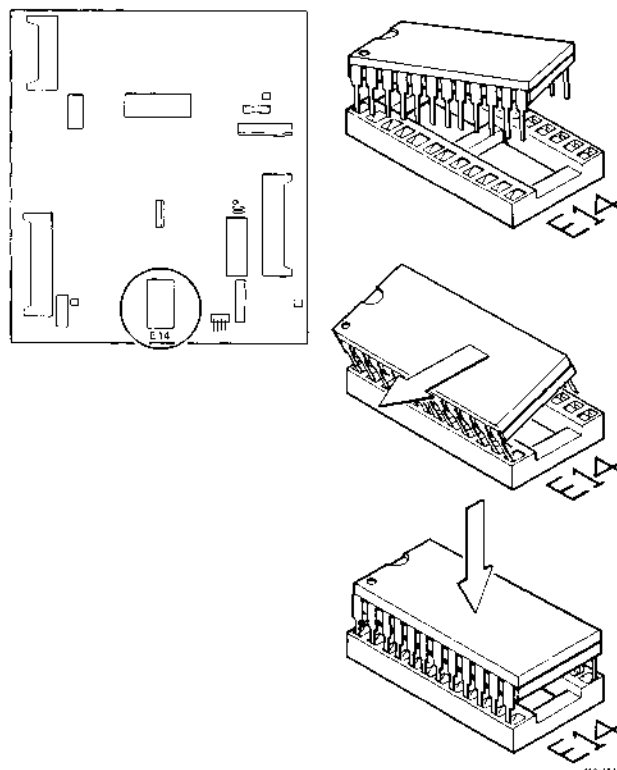

Figure 3-8 Option ROM CHIP Installation
- d. With pin 1 of option chip (identified by a small dot) located in the upper-left corner, slightly engage all pins on the left side of the chip in the corresponding side of the connector socket. Then with a slight pressure toward that side, angle the other side down and engage those pins. Then press the entire chip straight down into the socket, firmly engaging all the pins. Be sure to install the chip as shown in Figure 3-8.